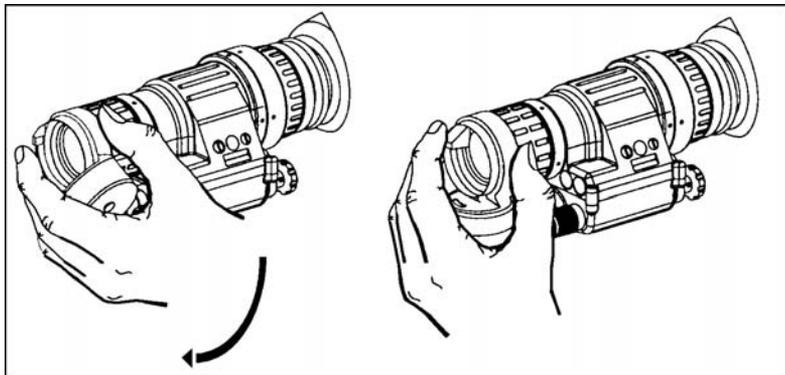

Figure 071-706-0001-9. Installation of the snap-on compass
7. Install and operate the snap-on compass (figure 071-706-0001-9).